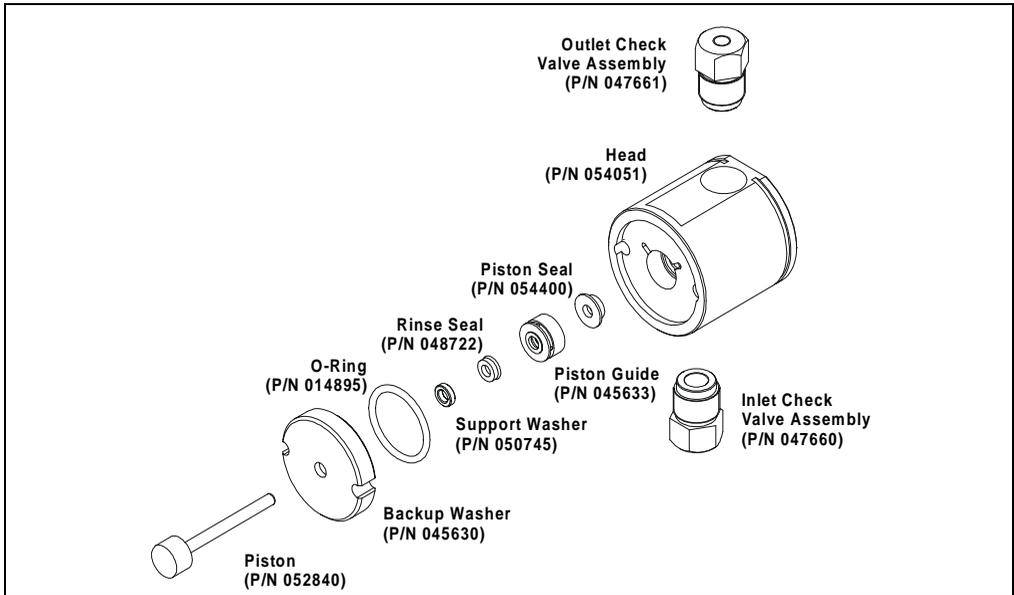
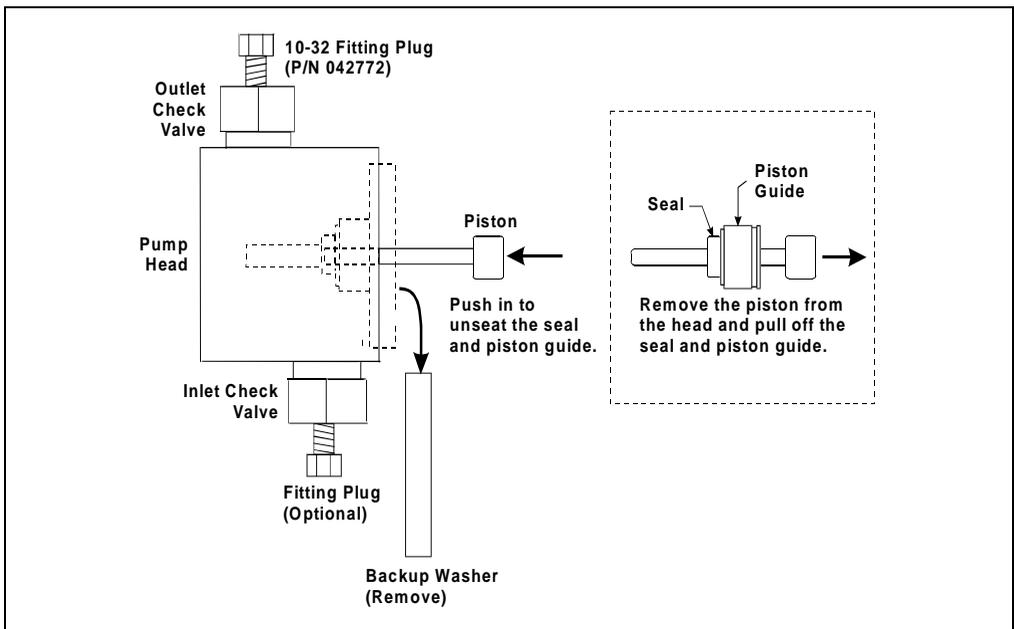

Figure 5-2. Pump Head Assembly
Figure 5-3. Removing the Piston Seal
5. Place the head (front end down) on a clean work surface and lift off the backup washer to expose the piston guide (see Figure 5-2 and Figure 5-3).
- b. Reinsert the piston approximately 1/8 inch into the seal Figure 5-3.